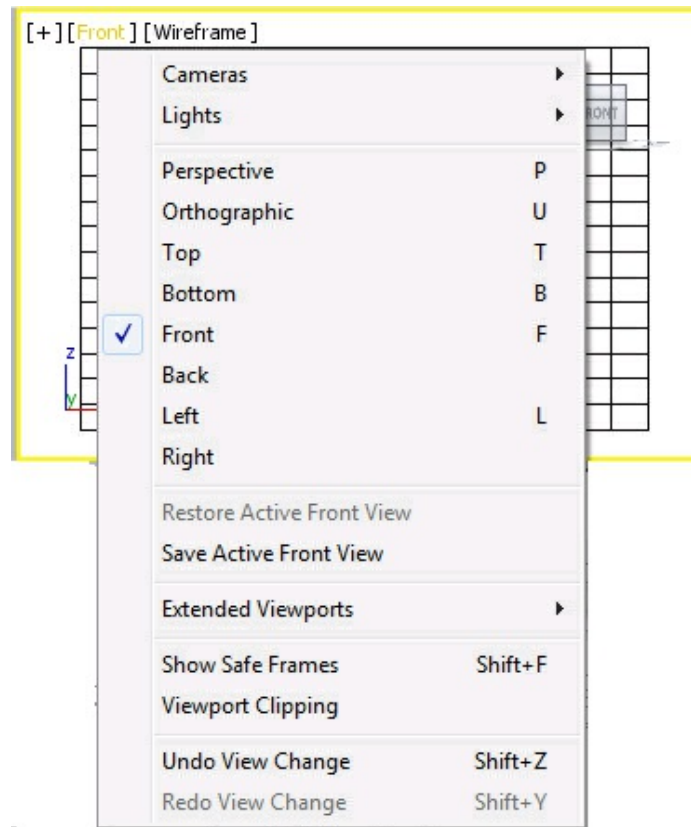

Figure 8-131 A flyout showing various options to display views
9. Click on the **Front** label in the Front viewport; a flyout is displayed showing various options to display different views of the viewport, as shown in Figure 8-131. Choose the **Back** option; the Back viewport is displayed.